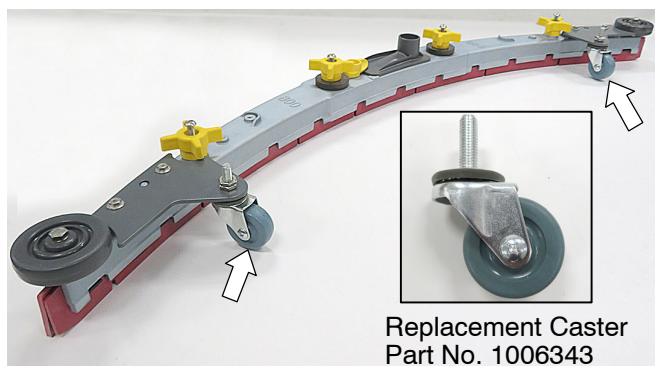

FIG. 140
6. Replace the squeegee casters every 5th replacement blade set or 500 hours or 12 months of machine use, whichever comes first. Uneven floor types may require more frequent replacements (Figure 140).